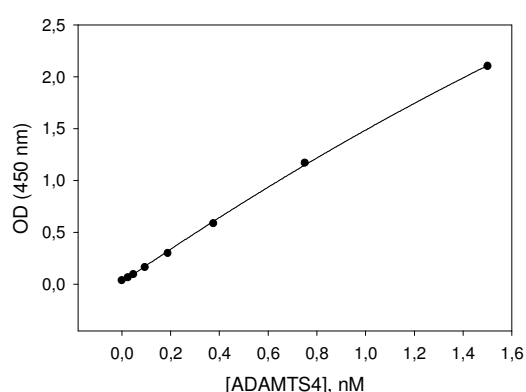
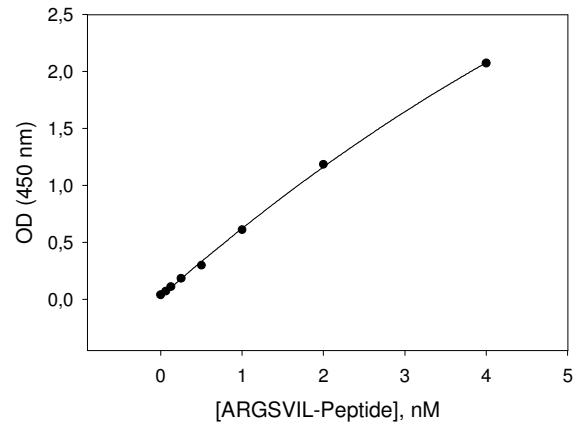

Fig. 2: Typical ADAMTS4 standard curve
Fig. 3: Typical standard curve for ARGSVIL-peptide.
2) Plot the mean absorbance against the concentration of ADAMTS4 (nM). The curve shape should be similar to fig. 2. The concentration of active test sample aggrecanase equivalent to the activity of standard ADAMTS4 in proteolytic reactions can be read directly from the graph or calculated by regression analysis.
2) Plot the mean absorbance against the concentration of ARGSVIL-peptide standard. The curve shape should be similar to fig. 3. The concentrations of ARGSVIL-peptide corresponding to absorbencies of aggrecanase reactions (Table 1, fig. 2) can be read directly from the graph or can be calculated using appropriate computer software.